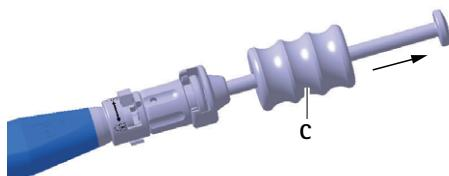

Fig. 6 Expelling the trial implant/implant with the impact cylinder
- ▶ Carefully expel the trial implant D using the impact cylinder C out of the intervertebral space, see Fig. 6.
- ▶ Carefully expel the implant a using the impact cylinder C out of the intervertebral space, see Fig. 6.